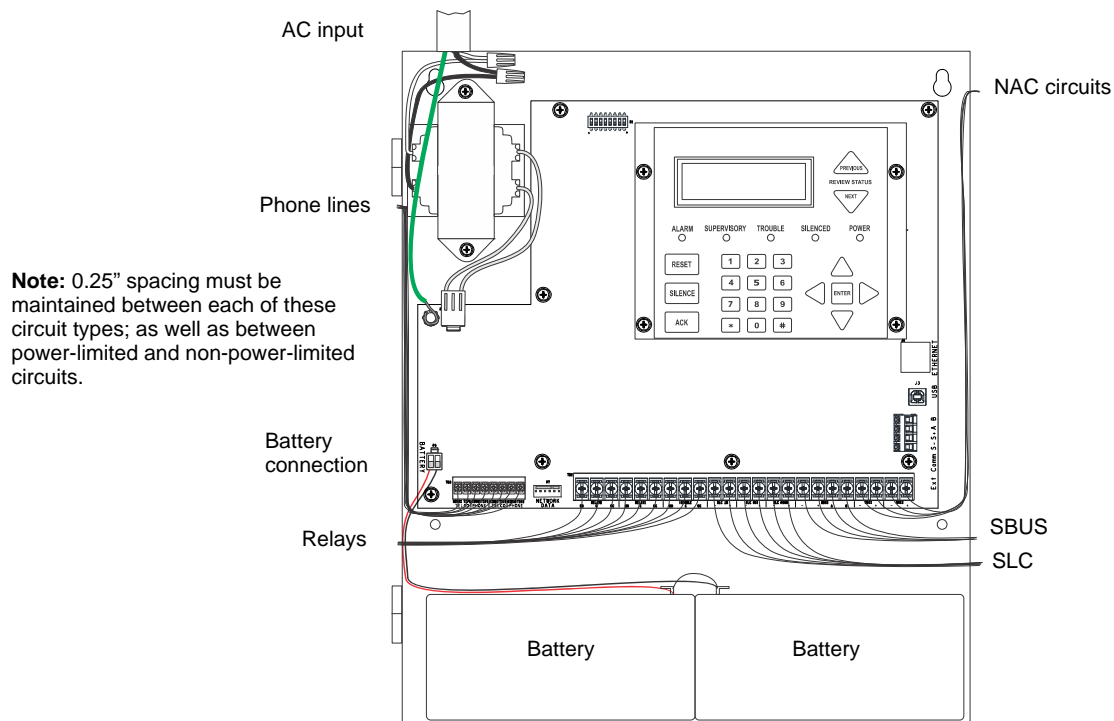

Figure 4.4 Wire Routing Example
- Route the wiring around the inside perimeter of the cabinet. It should not cross the circuit board, where it could induce noise into the sensitive microelectronics or pick up unwanted RF noise from the high speed circuits. See Figure 4.4 for an example.